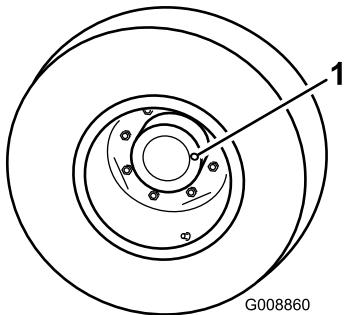

Figure 47
1. With the machine on level surface, position the wheel so that one check plug (Figure 47) is at the 12 o'clock position and the other is at the 3 o'clock position.
1. Check/drain plug (2)
2. Remove the plug at the 3 o'clock position (Figure 47).